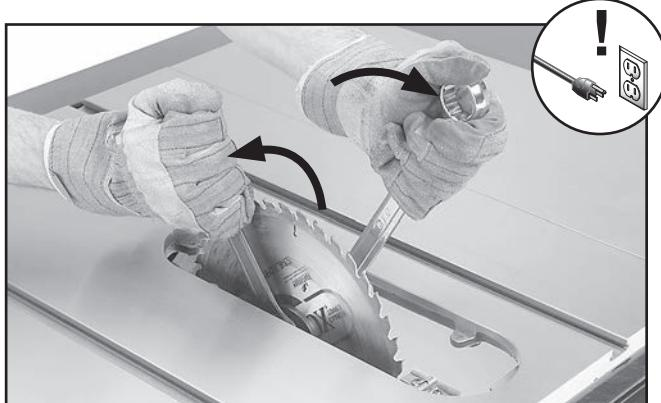

Figure 46. Example of removing table saw blade.
3. Use included arbor wrenches to loosen and remove arbor nut, flange, and blade (see **Figure 46**). Arbor nut has right-hand threads; turn counterclockwise to loosen.